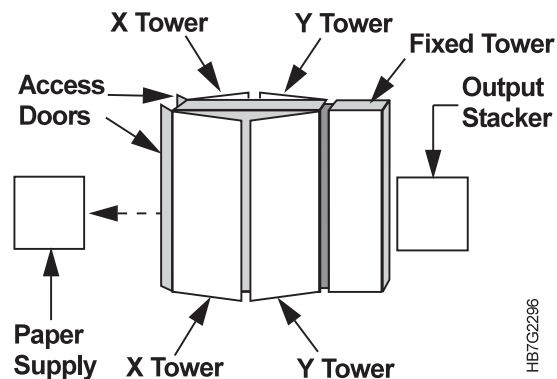

Figure 240. Right Side View of the InfoColor 70
- 7 Move the paper supply away from the access doors located between the paper supply and the print tower, as shown in Figure 240.